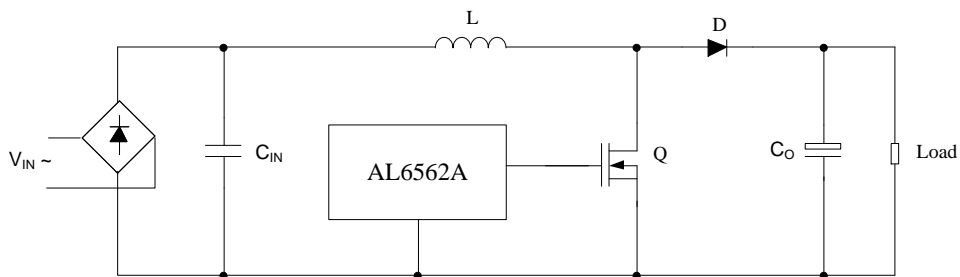

Figure 8. Boost Converter Circuit
The most popular power factor correction topology is the Boost circuit. The boost converter consists of a boost inductor (L), a controlled power switch (Q), a diode (D), an output capacitor (C_o) and a control circuit (see Figure 8).